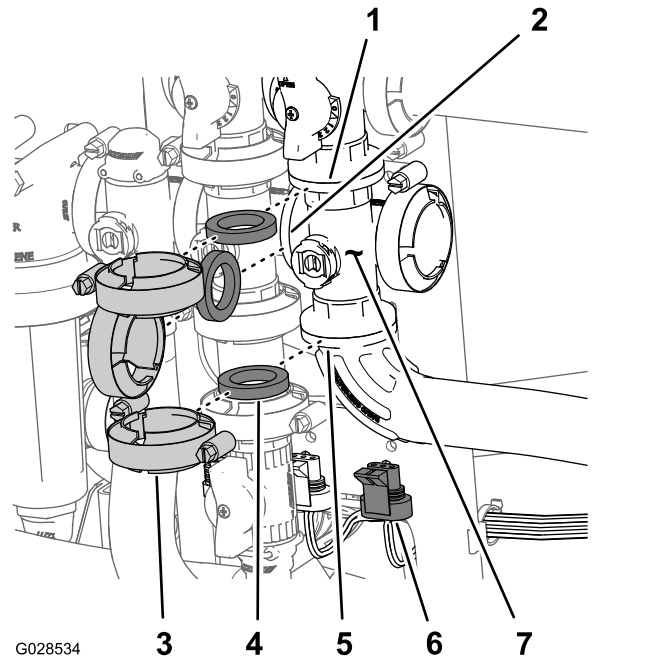

Figure 52
1. Remove clamps and gaskets that secure the manifold for the master boom valve (Figure 52) to the master boom bypass valve, agitation valve, and 90° flanged elbow (at the end of the hose for the flow meter).